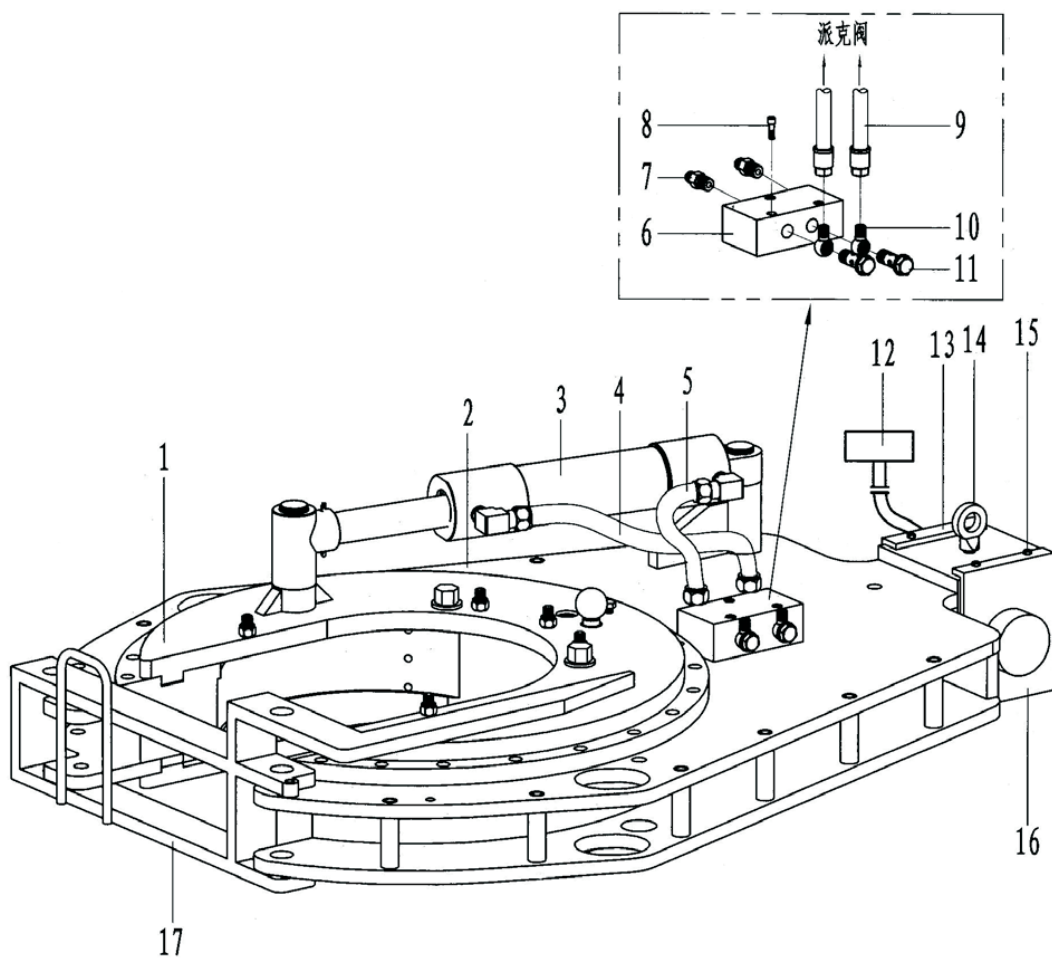

Fig.22
7.19 Backup tong assembly(Fig.22,Table22)